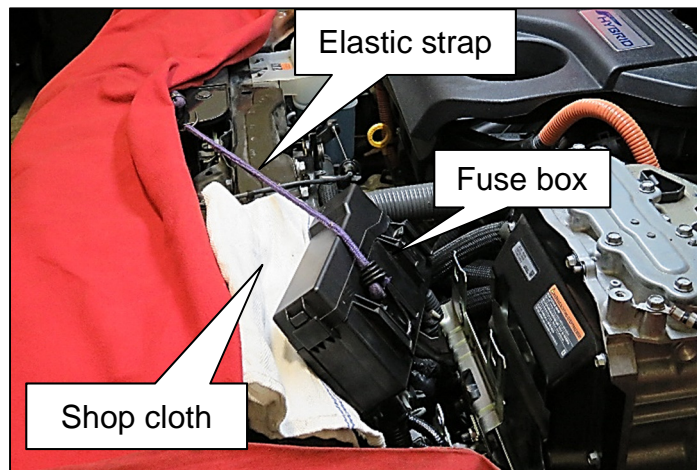

Figure 10
8. Move the fuse box toward the front of the vehicle and hold in place using a suitable elastic strap, as shown in Figure 10.